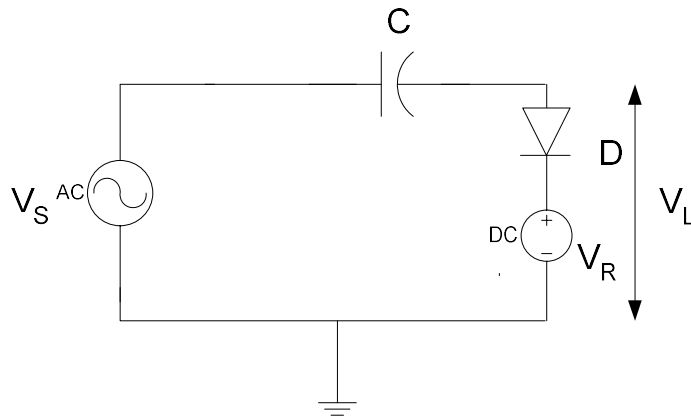

Fig. 3.10 Diode clamper
1. Construct the circuit as shown in Fig. 3.10. Adjust  $V_S$  to 15 Vpp sine wave at 1kHz and  $V_R$  to 5 Vdc.